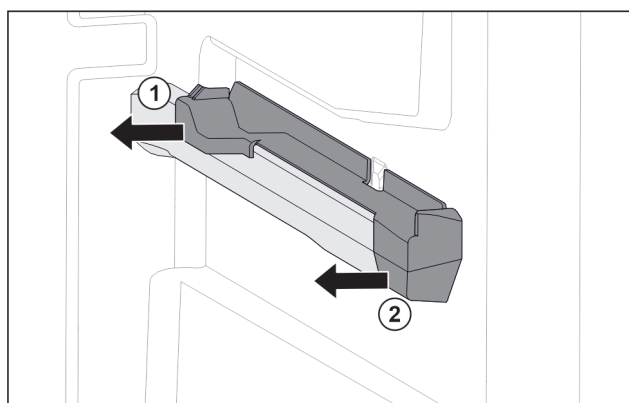

Fig. 96 Attachment on the right moulded rib
- ▶ Pull off attachment at the back sideways. Fig. 96 (1)
- ▶ Pull off attachment at the front sideways. Fig. 96 (2)